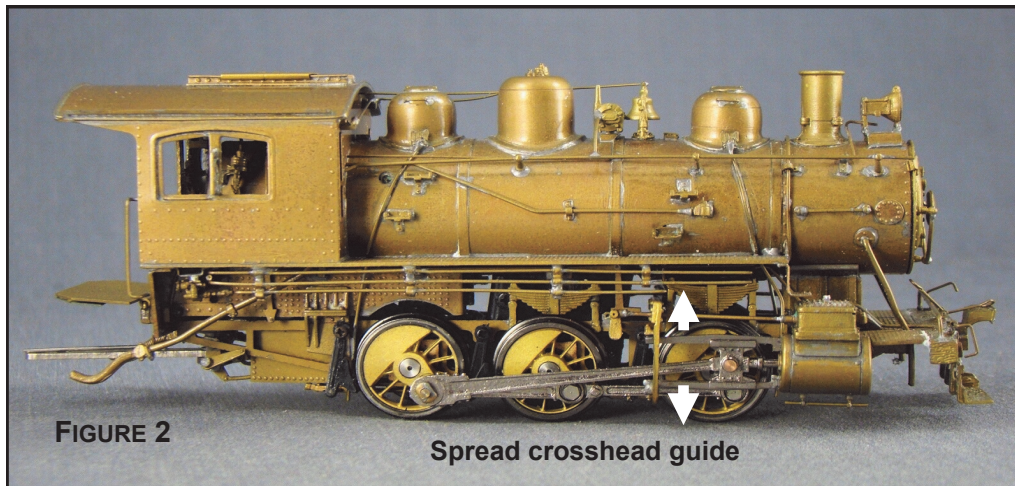

FIGURE 2
- I hooked clip leads up to the engine and started to turn over the drivers. I noted that the crosshead guides on the right side of the engine were too tight, causing a bind, so I gently spread the guides apart with a pair of pliers (see *Figure 2*). This freed up the crosshead.